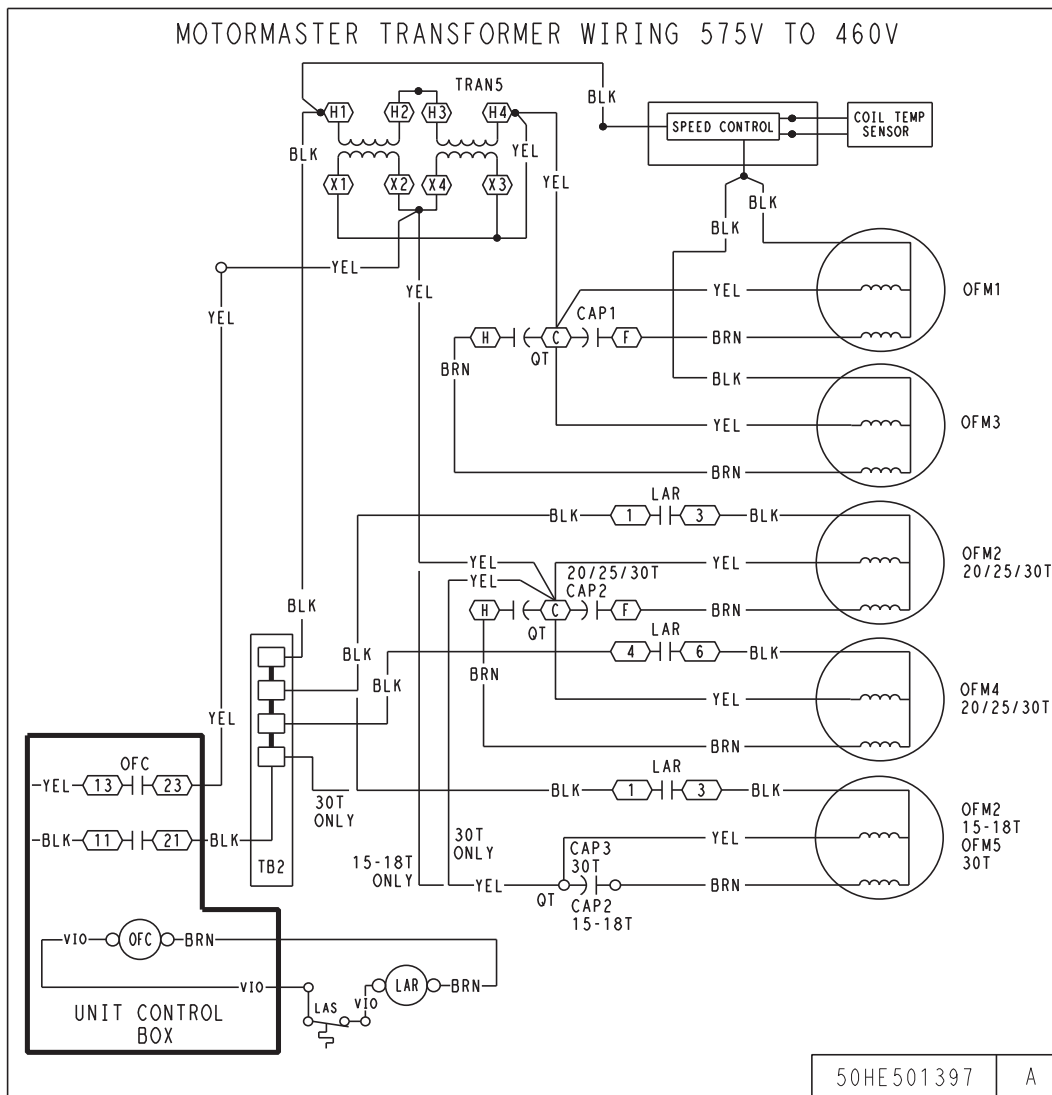

Fig. 7 - Wiring Diagram-575V to 450V
1. Locate transformer bracket and mount bracket to base pan and rails adjacent to compressor A as shown in diagram. (See Fig. 7.)
4. Locate low ambient switch in compressor section of circuit A and allow wires through wiring grommet to hang in blower section. (See Fig. 7.)